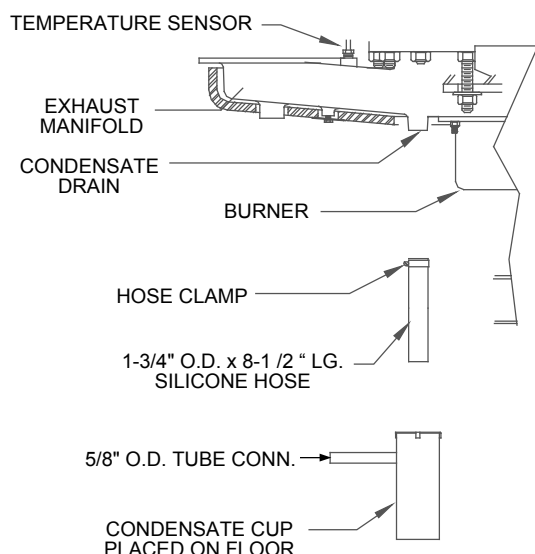

Figure 2.5
1. Remove the left side panel and only the left half of the rear cover to provide access to the exhaust manifold and burner (Figure 2.5).
2. Insert the 1-3/4 inch manifold drain hose into the condensate cup. Allow the cup to rest on the floor directly beneath the manifold drain hole (Figure 2.5).